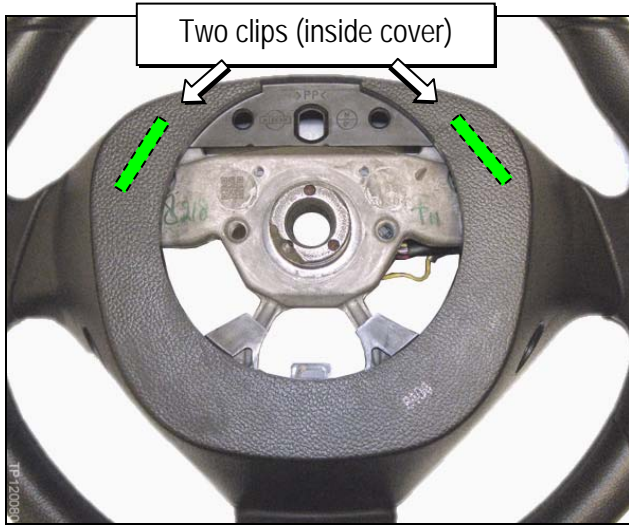

Figure 3
- d. Use the screwdriver to release the two (2) clips shown in Figure 3.